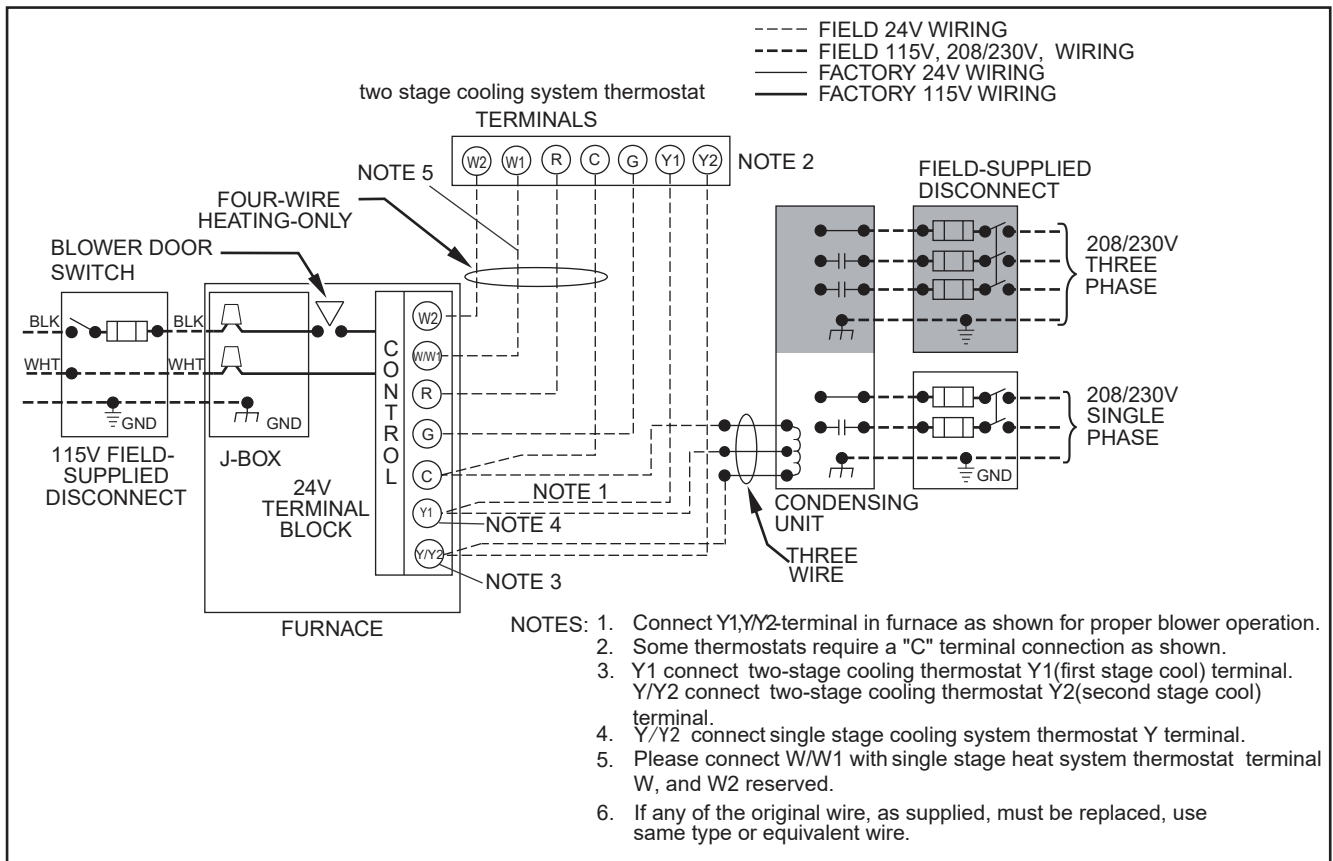

Fig.33 - Heating and Cooling Application Wiring Diagram with 2-Stage Heating Thermostat
5. Connect line voltage leads as shown in Fig. 33.
12. Complete electrical box wiring and installation. Connect line voltage leads as shown in Fig. 33. Use best practices (NEC in U.S. and CSA C22.1 in Canada) for wire bushings, strain relief, etc.
1. Maintain 115V wiring and ground. Improper polarity will result in rapid flashing LED and no furnace operation. (See Fig. 33)
2. Make thermostat wire connections at the 24-V terminal block on the furnace control. Failure to make proper connections will result in improper operation. (See Fig. 33)